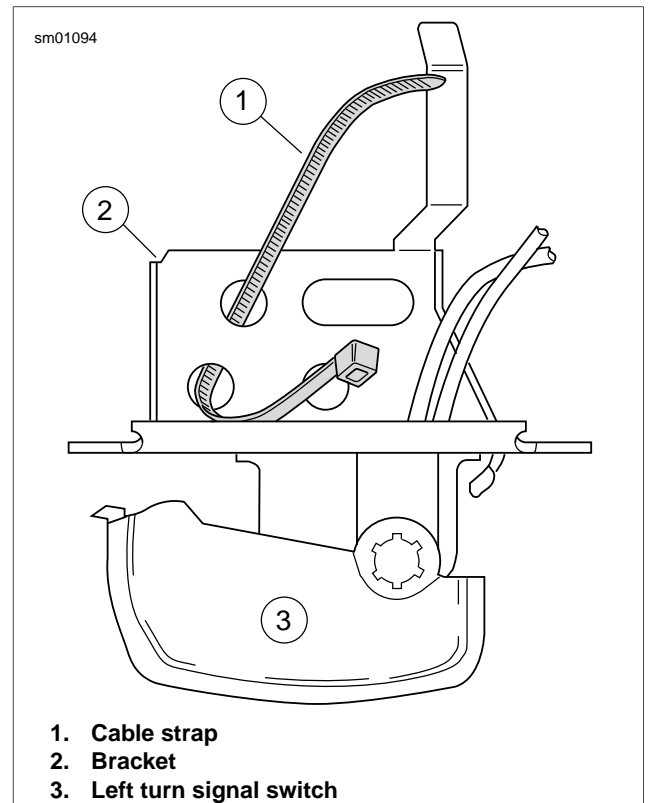

Figure 8-95. Insert Cable Strap in Switch Bracket
1. See Figure 8-95. Insert tapered end of new 7.0 in. (177.8 mm) cable strap (1) into round hole in turn signal switch bracket (2) and then feed back through using the adjacent hole. Reserve the oblong hole for the bracket screw.